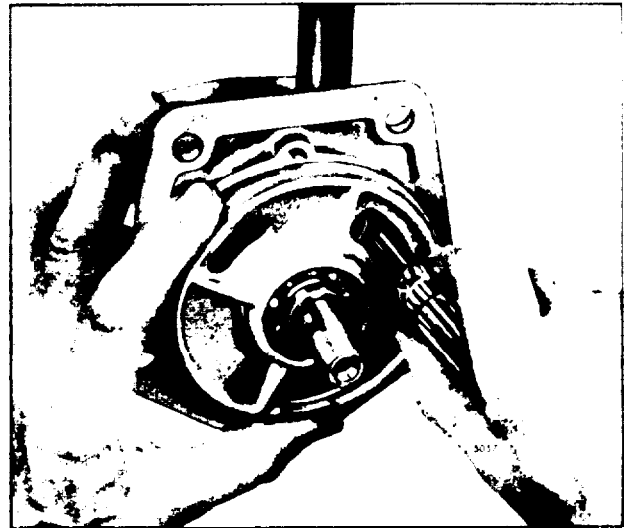

Fig. 4 Removing Fork from Operating Shaft
- the screws that hold the fork to the operating shaft (Fig. 4). Then remove the two screws and washers.